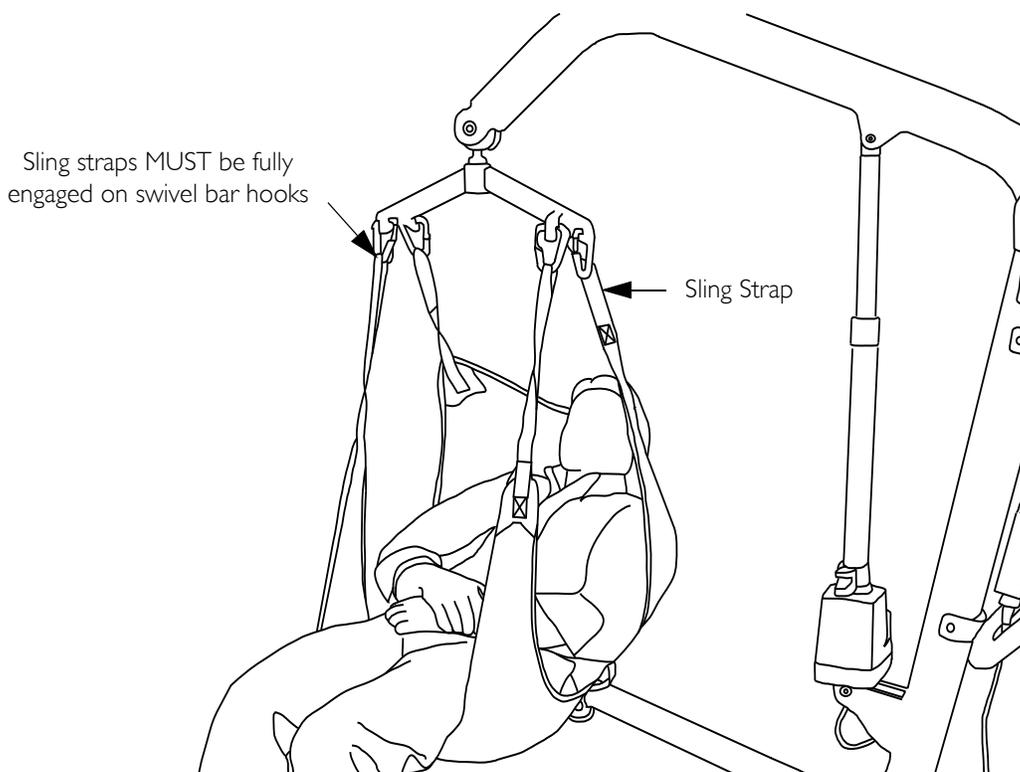

FIGURE 4.2 Attaching a Sling to the Swivel Bar
NOTE: For this procedure, refer to FIGURE 4.2 on page 15.
2. Match the corresponding colors on each side of the sling for an even lift of the patient, refer to FIGURE 4.2.